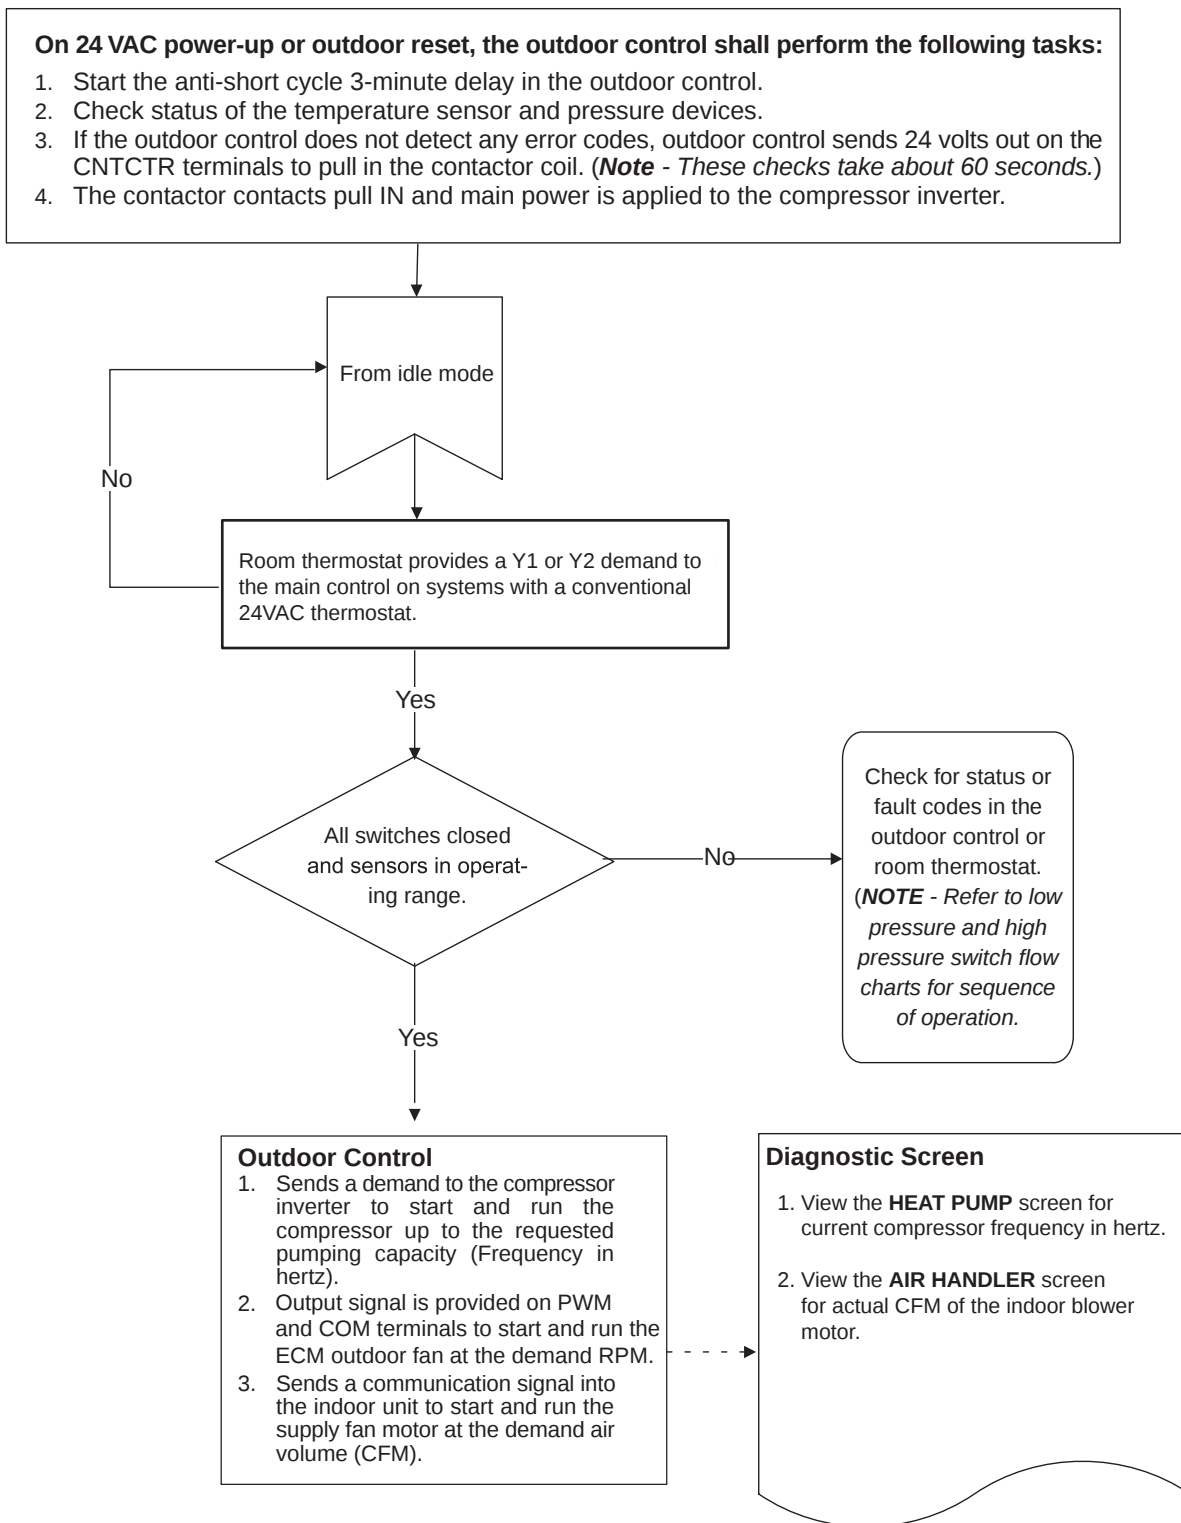

Figure 25. 24 Volt Power-Up or Outdoor Reset
- **Low Suction Pressure Protection (LPS)** – See **Figure 25** for low suction pressure protection sequence of operation.